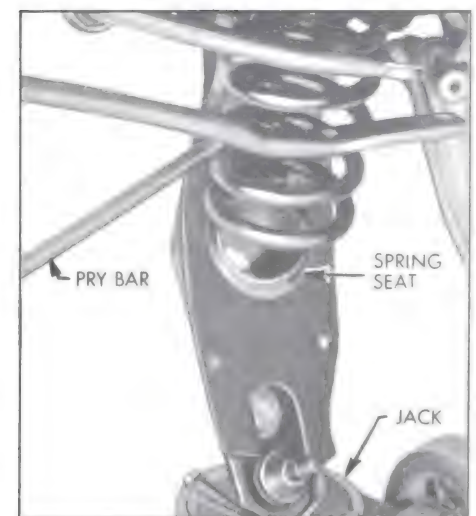

Figure 7-20—Prying Spring Off Its Seat
9. Carefully lower the jack supporting the lower control arm to release the spring. With the jack all the way down to the floor it still may be necessary to pry the spring off its seat on the lower control arm with a long pry bar. See Figure 7-20. Caution should be exercised in handling this loaded spring while still attached.